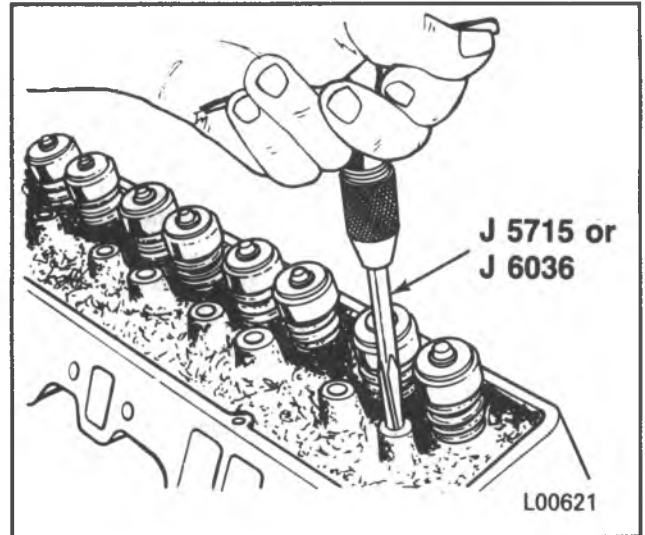

Figure 12 — Reaming the Rocker Arm Stud Bore (Typical)
Install or Connect (Figures 12 and 13)
- Ream the hole to the proper size for the replacement oversize rocker arm stud. Use J 5715 for 0.003-inch oversize studs; J 6036 for 0.013-inch oversize stud (figure 12).